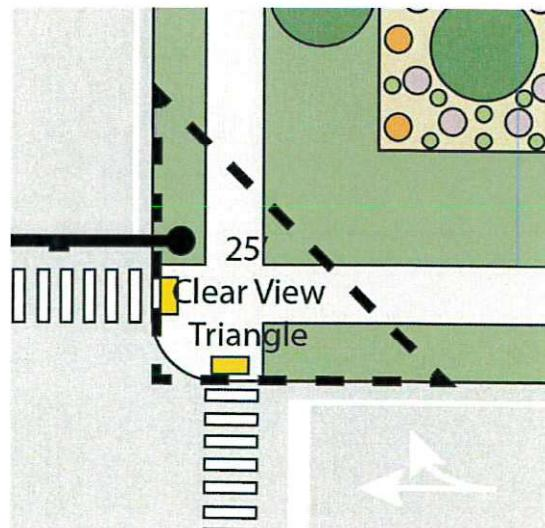

Figure 1
2. Clear Sight Triangle. No sign shall be placed within the clear sight triangle as defined within City Code (*See Figure 1*).